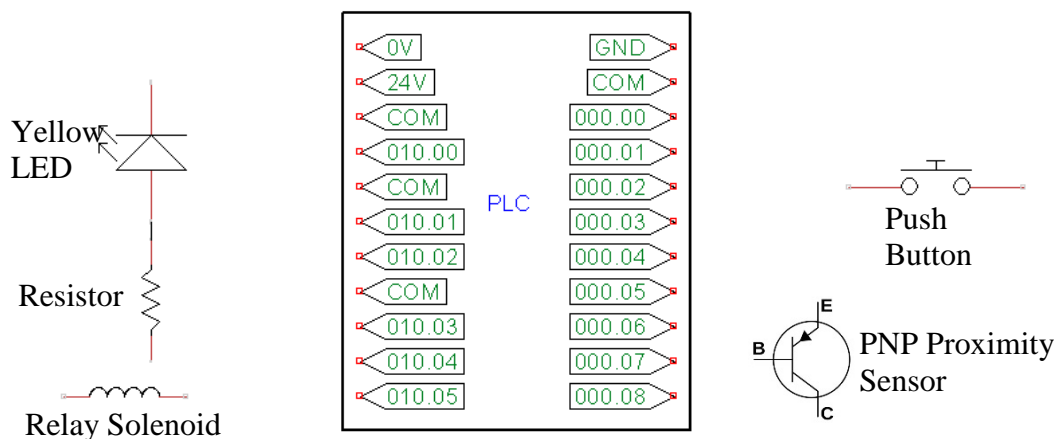

Figure 4[b]
- [b] Draw FOUR (4) electrical circuits for connecting a programmable logic controller (PLC) with a push button, a PNP proximity sensor, a yellow LED and a relay solenoid to its input/output pins 000.02, 000.07, 010.02 and 010.05 respectively. The relay is connected to a DC motor. Use the symbols shown in Figure 4[b].